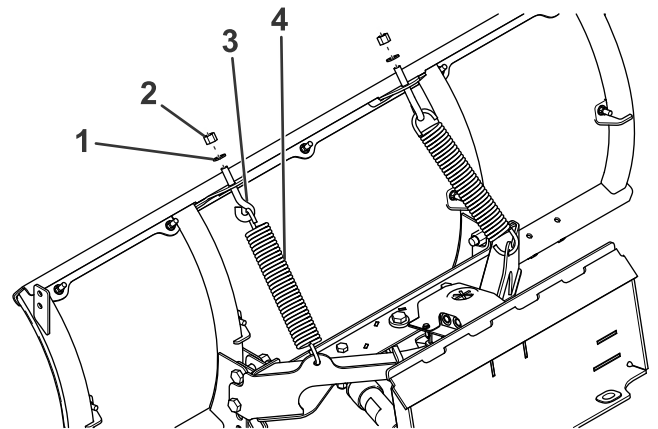

Figure 5
4. Hook the 2 trip springs through the holes on the push frame (Figure 5).
5. Hook the other ends of the trip springs to 2 eyebolts (Figure 5).
using 2 washers (1/2 inch) and nylon locknuts (Figure 5).